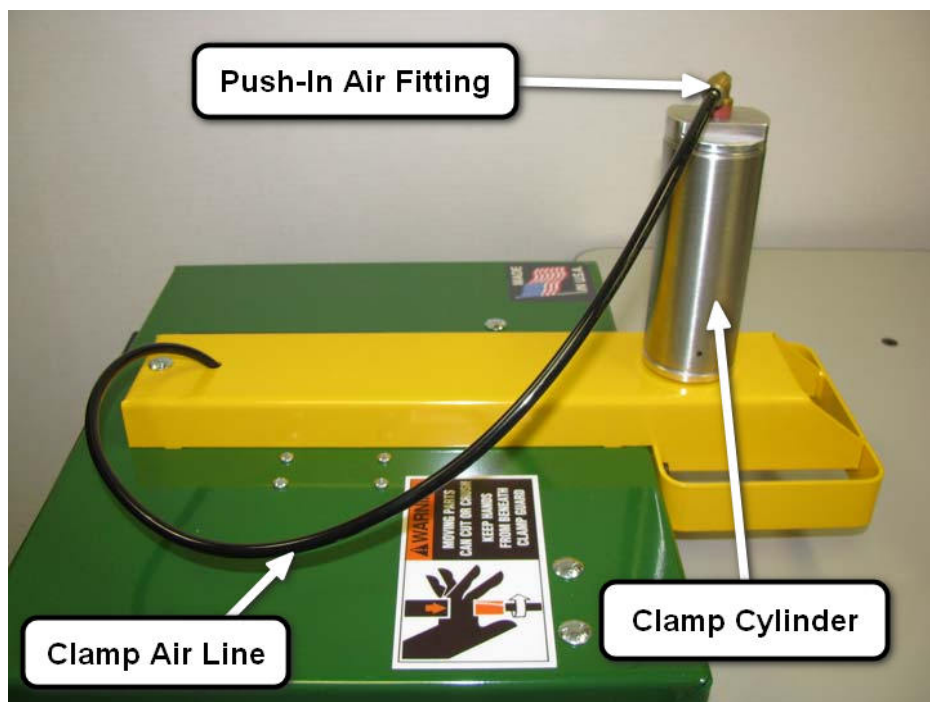

Fig 5a
3. Connect an external air supply directly to the "push in" air fitting. **See Fig 5a.**